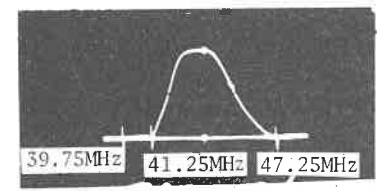

FIG. 1
41.25MHz	Adjust T102, T105 (Top) and VR104 for MINIMUM. See Figure 1.
47.25MHz	Adjust T103 and VR101 for MINIMUM. See Figure 1.